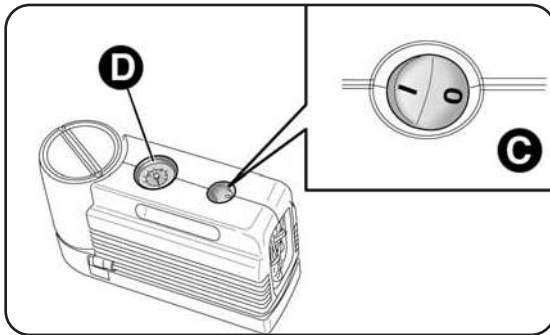
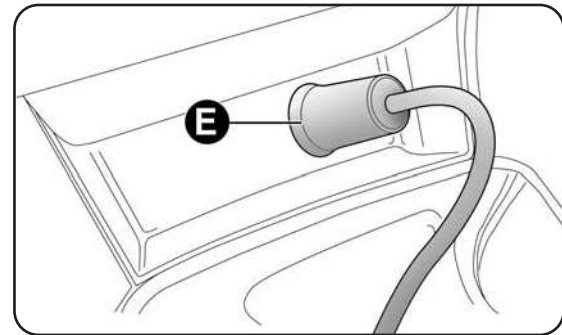

fig. 5
fig. 5a
- make sure that switch C - fig. 5 for the compressor is in position 0 (off), start the engine, insert pin E - fig. 5a into the power socket and switch on the compressor by placing switch C - fig. 5 in position I (on);
- inflate the tyre to the pressure specified in the "Inflation pressure" paragraph, in chapter "6". For a more accurate reading, check pressure value on pressure gauge D - fig. 5 with the compressor off;